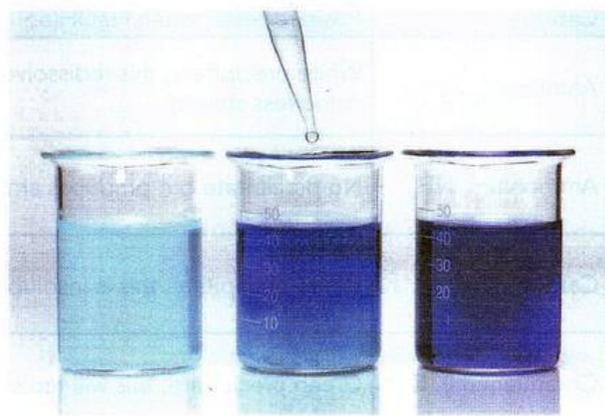

Figure 22.6: Precipitation reaction as ammonia solution is added to a solution containing aqueous copper(II) ions.
Ammonia solution produces slightly different results when it is added in excess. For solutions containing zinc or aluminium ions, a few drops of ammonia solution will produce a white precipitate. When an excess is added it is possible to distinguish between the two metal cations as the aluminium precipitate is insoluble, but the zinc precipitate dissolves to give a colourless solution. The other difference to note is that copper(II) ions will initially give a characteristic pale blue precipitate but this will redissolve when excess ammonia is added, producing a dark blue solution (Figure 22.6).